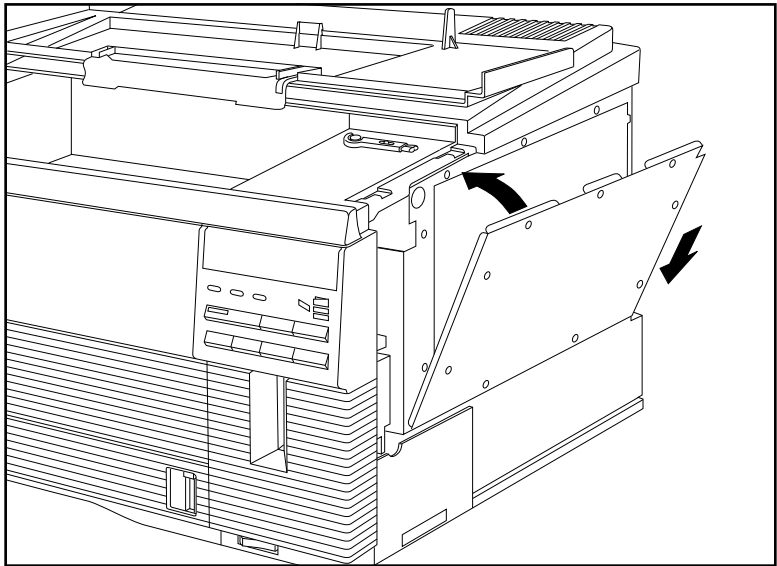

Fig. 9.15 Replace the EMI Shield
11. Replace the EMI shield by placing the tabs on the bottom into the slots on the printer and tilting it up into position (fig. 9.15).